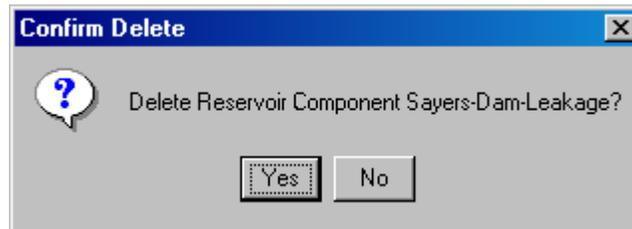

Figure 10.27 Confirm Removal of Reservoir Parameter
3. A confirmation window will appear (Figure 10.27). Click **Yes** to verify the removal.